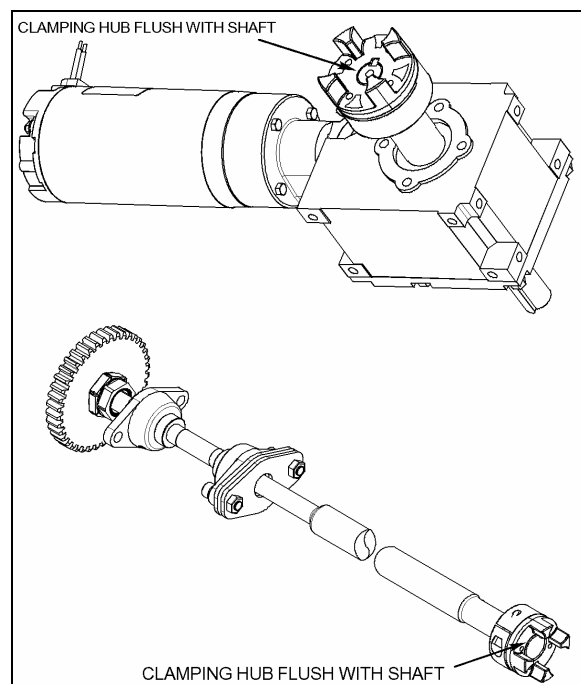

FIGURE 19: CLAMPING HUB POSITION ON SHAFTS
bolts) flush with the shaft extremity (see FIGURE 19 ). Tighten the clamping screw to a torque of 18 lbf-ft.
7. Install the second clamping hub on the gearbox shaft. Position the clamping hubs so that they are flush with the shafts extremity (see FIGURE 19).